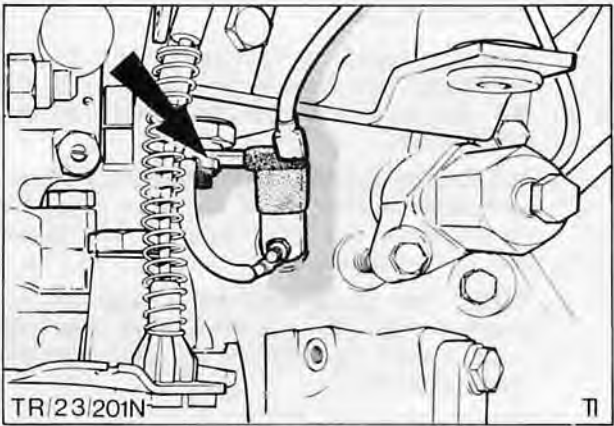

Fig. 79. Glow plug loom connection
7. Disconnect glow plug loom connection. Location for this connection will be at the front of the inlet manifold, Fig. 79.